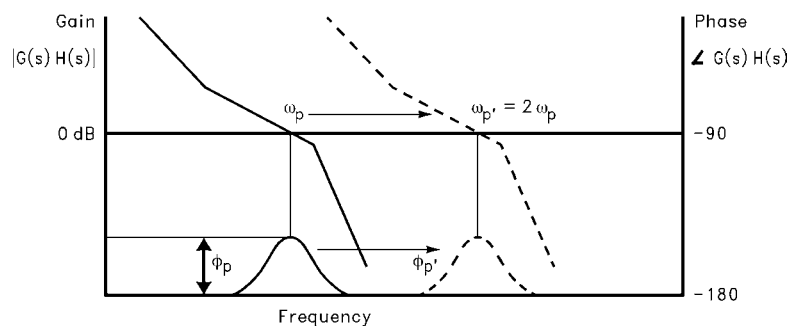

FIGURE 4. Open Loop Response Bode Plot
A plot of the magnitude and phase of  $G(s) H(s)$  for a stable loop, is shown in *Figure 4* with a solid trace. The parameter  $\phi_p$  shows the amount of phase margin that exists at the point the gain drops below zero (the cutoff frequency  $\omega_p$  of the loop). In a critically damped system, the amount of phase margin would be approximately 45 degrees.
If we were now to redefine the cut off frequency,  $\omega_p'$ , as double the frequency which gave us our original loop bandwidth,  $\omega_p$ , the loop response time would be approximately halved. Because the filter attenuation at the comparison frequency also diminishes, the spurs would have increased by approximately 6 dB. In the proposed Fastlock scheme, the higher spur levels and wider loop filter conditions would exist only during the initial lock-on phase—just long enough to reap the benefits of locking faster. The objective would be to open up the loop bandwidth but not introduce any additional complications or compromises related to our original design criteria. We would ideally like to momentarily shift the curve *Figure 4* over to a different cutoff frequency, illustrated by dotted line, without affecting the relative open loop gain and phase relationships. To maintain the same gain/phase relationship at twice the original cutoff frequency, other terms in the gain and phase *Equations (5), (6)* will have to compensate by the corresponding “1/w” or “1/w2” factor. Examination of *Equations (3), (4), (5)* indicates the damping resistor variable  $R2$  could be chosen to compensate with “w” terms for the phase margin. This implies that another resistor of equal value to  $R2$  will need to be switched in parallel with  $R2$  during the initial lock period. We must also ensure that the magnitude of the open loop gain,  $H(s)G(s)$ , is equal to zero at  $\omega_p' = 2 \omega_p$ .  $K_{VCO}$ ,  $K_\phi$ ,  $N$ , or the net product of these terms can be changed by a factor of 4, to counteract with  $w^2$  term present in the denominator of *Equations (3), (4)*. The  $K_\phi$  term was chosen to complete the transformation because it can readily be switched between 1X and 4X values. This is accomplished by increasing the charge pump output current from 1 mA in the standard mode to 4 mA in Fastlock.